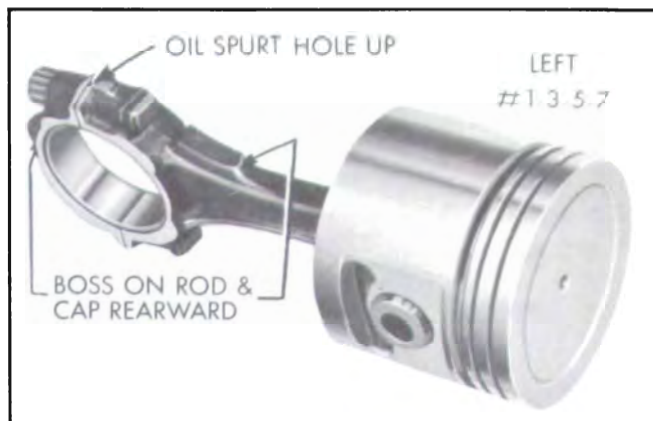

Figure 2-56—V-8 Left Bank Piston and Rod Assembly
2. If the piston and rod assembly is to be installed in the left bank the assembly must be made as shown in Figure 2-56 or 2-57.
17. Install all other piston and rod assemblies in same manner. When piston and rod assemblies are properly installed, the oil spurt holes in the connecting rods will be "up" toward the camshaft, the rib on the edge of the rod cap will be on the same side as the conical boss on the connecting rod web, and these marks. (rib and boss) will be toward the other connecting rod on the same crankpin. See Figures 2-56, 2-57, 2-58 and 2-59.